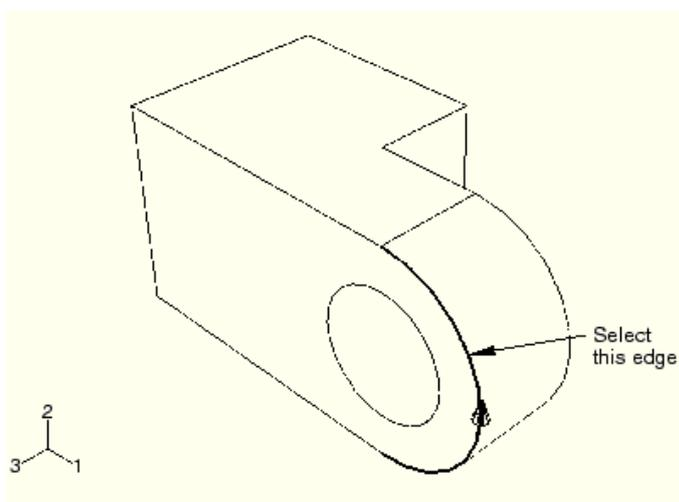

Figure C-12 Create a datum point along the curved edge of the flange.
4. Select the curved edge, as shown in Figure C-12. Note the direction of the arrow indicating an increasing edge parameter from 0.0 to 1.0. You cannot change the direction of this arrow.
- In the text box in the prompt area, enter a normalized edge parameter and press **[Enter]**. If the arrow direction is the same as in Figure C-12, enter 0.75 as the normalized edge parameter; if the arrow points in the opposite direction, enter 0.25 as the normalized edge parameter.